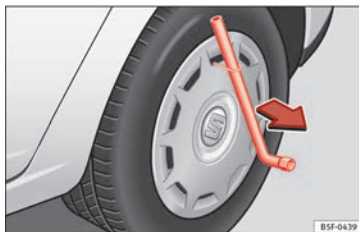

Fig. 182 Remove the wheel cover.
- Remove the wheel cover using the wire hook » **Fig. 182**.